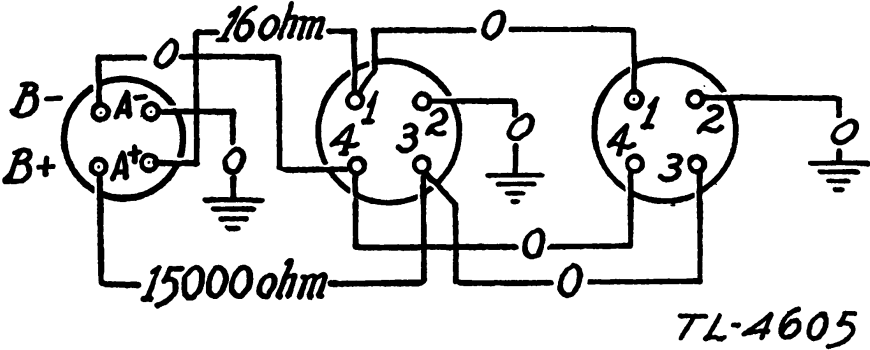

FIGURE 23.—Point-to-point resistance values, filter FI-10—outside view.
e. Filter resistances.—See figure 23.